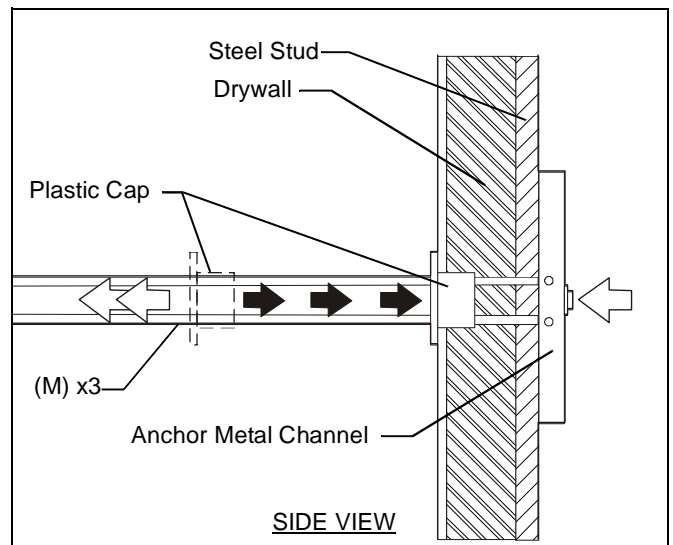

Figure 6
7. Holding plastic straps on anchor (M), pull anchor away from wall until channel rests flush behind wall making sure anchor channel is positioned vertically on stud as show in figures below. (See Figure 6)
8. Slide plastic cap on anchor (M) towards wall until flange of cap is flush with wall. (See Figure 6)